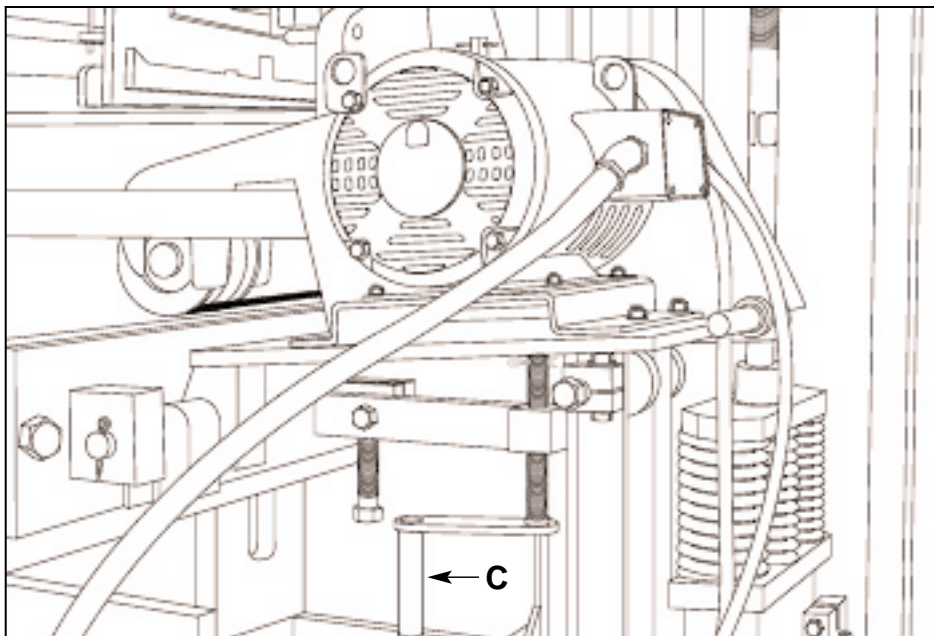

Figure 5.14 RAISING THE VIBRATOR MOTORS WITH SCREW JACK (C).
- 5.4.16 Raise both vibrator motors with screw jacks (C) (see figure 5.14). Screw vibrators jacks up and place V-belts from vibrating motor sheaves to vibrating shaft sheaves. On a standard vibration system, you must install 4 belts on each side. On a Smartpac system, you must install 2 belts on each side.